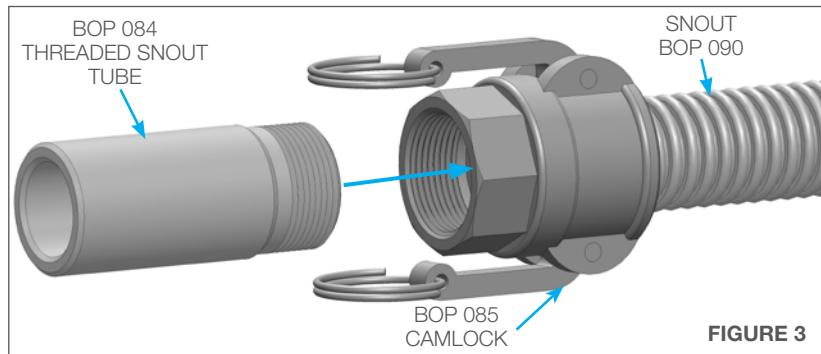

FIGURE 3
3. Thread the BOP 084 Threaded Snout Tube into the BOP 085 Camlock at the end of the BOP 090 Snout. (**Figure 3**)